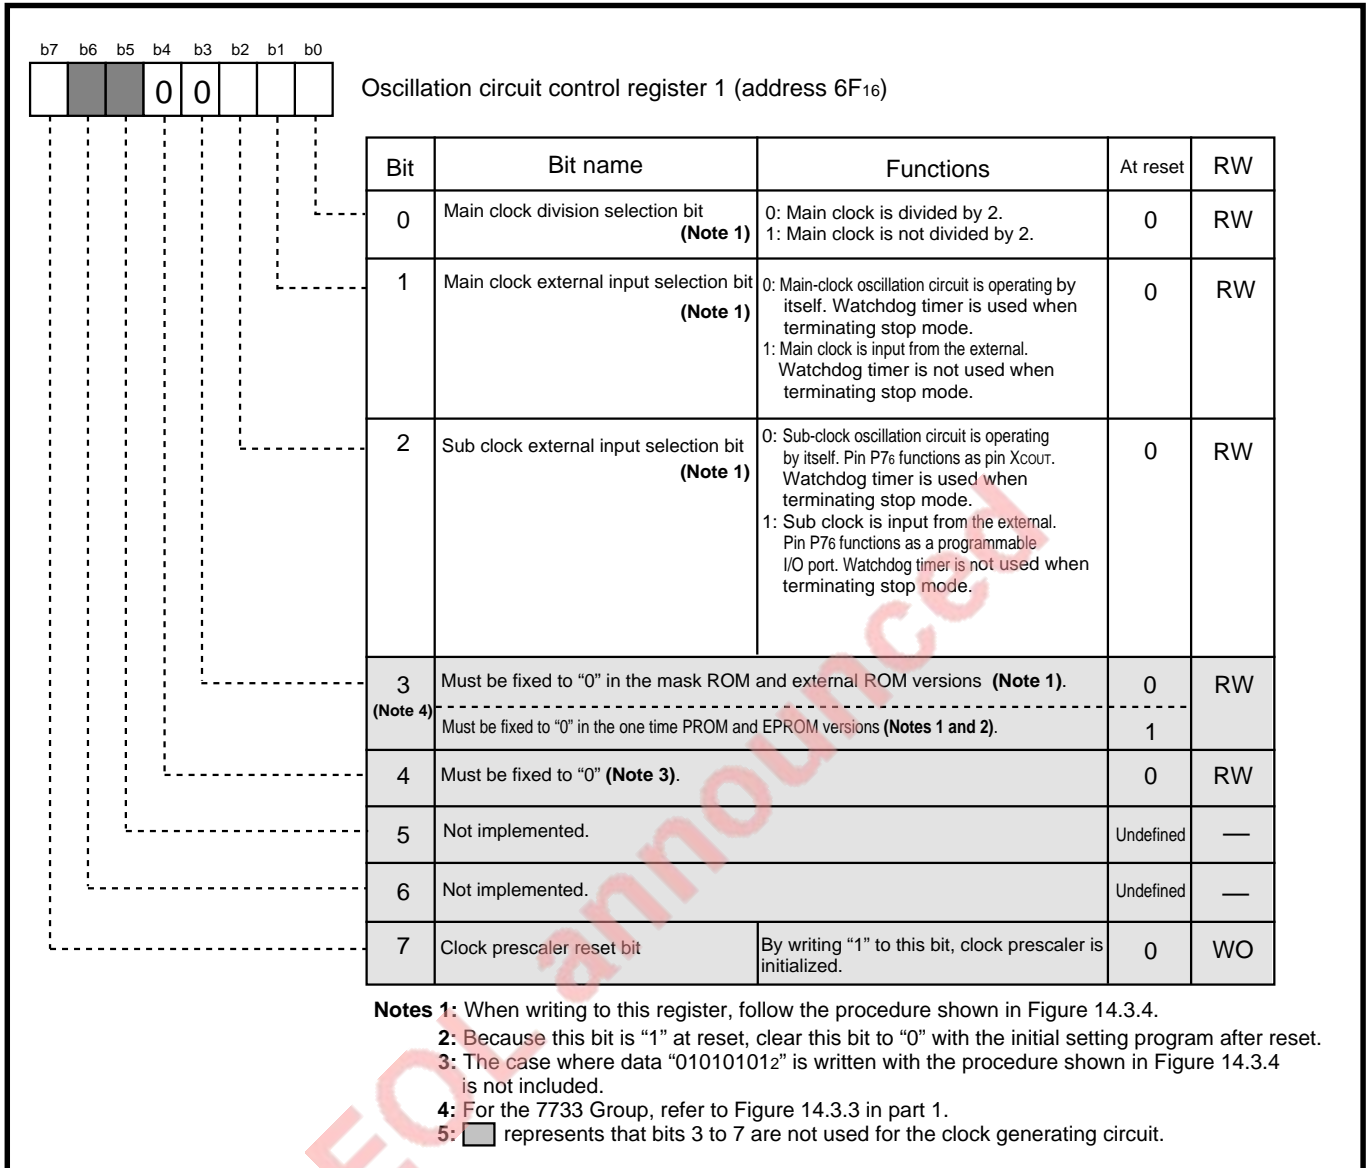

Fig. 14.3.3 Structure of oscillation circuit control register 1
\*3 State immediately after reset for bit 3 at address 6F16 vary according to the microcomputer. (Refer to Figure 14.3.3 in part 2 ; This bit's function of the 7735 Group differs from that of the 7733 Group.)
- **Figures 14.3.3 and 14.3.4**